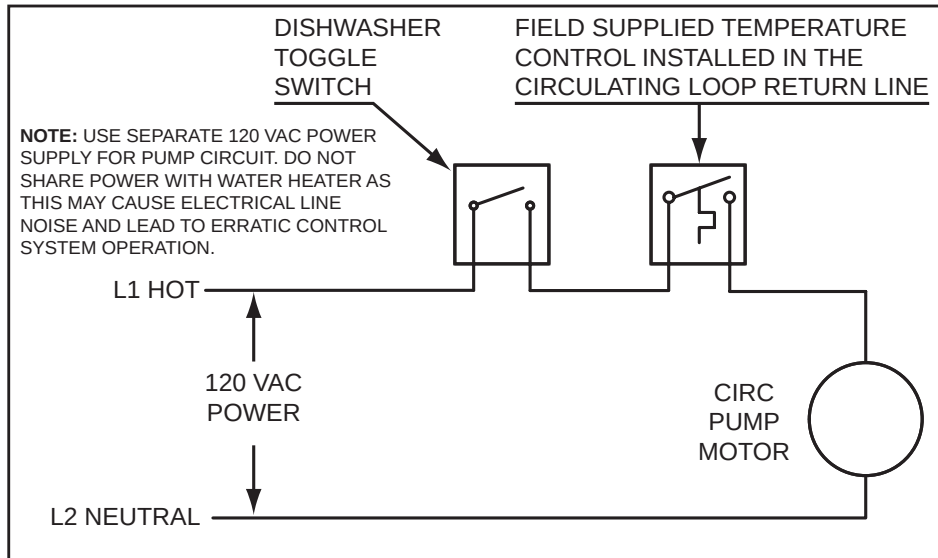

Figure 69. Circulating Pump Wiring Diagram - Dishwasher Loop Toggle Switch
7. If a pump is being installed in a recirculation loop between the water heater and a commercial dishwasher wire according to *Figure 69* (page 71).
7. If a pump is being installed in a recirculation loop between the water heater and a commercial dishwasher wire according to *Figure 69* (page 71)..